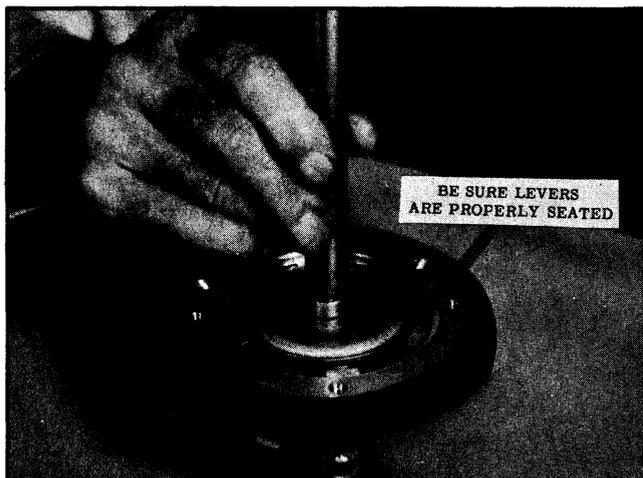

Fig. 7-32 Depressing Reaction Levers
9. Seat the plunger and reaction plate assembly on the reaction levers, then press down quickly until the reaction levers are held in a flat position. (See Fig. 7-32) Be sure each lever is properly seated.